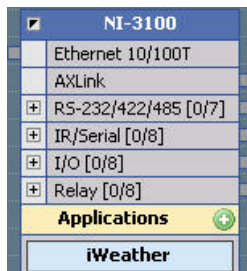

FIG. 87 Central Controller with i Weather Application
4. The selected Application is indicated in the device element in the System Diagram (FIG. 87):